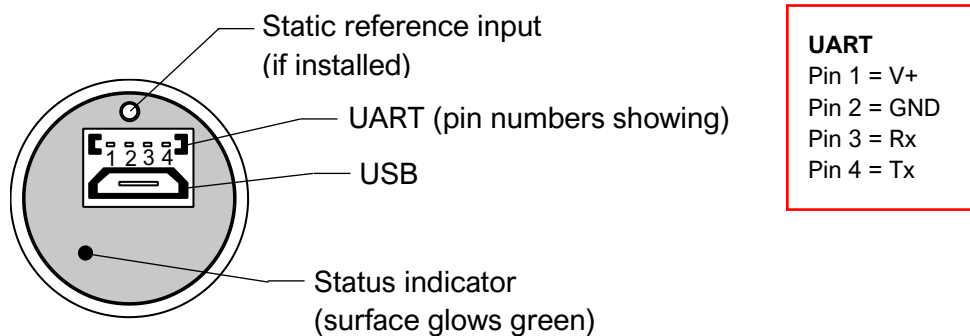

Figure 3: connector interface and pin assignment
Comms port: This is the UART serial communications connection. There are four pins: V+ (1), GND (2), Rx (3) and Tx (4), where pin 1 is on the left when the probe is oriented such that the serial port is above the micro-USB port (see figure 3). Note that pin 1 on the matching plug is marked with a small recessed triangle.